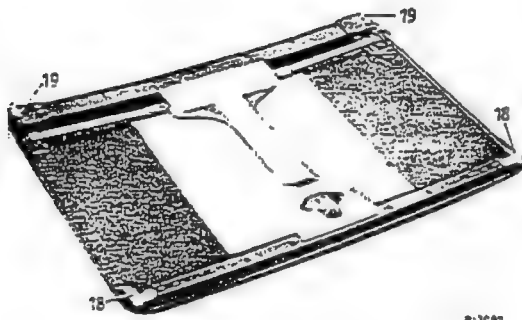

Fig. 78-1/10
Release angle adjustment. The rear sliding angles (19) can be given more lateral play than the front angles since at this point the roof is always under lateral stress produced by the brake rods (Fig. 78-1/10).